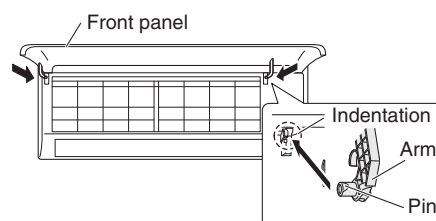

Fig. 1-70
- (1) While aligning the top edge of the grille with the frame, move the grille horizontally and insert the top and bottom into the frame.
- (2) Press the grille firmly with your hand to ensure no gap exists between the frame and grille.
- (3) Tighten the 6 screws. And fix the removed covers in place.
- (4) Grasp the sections near the front panel arms on both sides, and hold the front panel so that it is nearly horizontal. Push the arm shafts towards the outside so that they come into contact with the top of the indentations on the right and left sides of the air conditioner. Then push firmly until the arm shafts click into place. (Fig. 1-70)
- (5) Remount the lower flap.